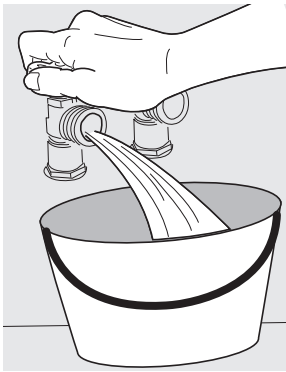

Fig. 1
1. Run some water from the hot and cold faucets to flush the water lines and remove particles that might clog the water valve screens and to determine which faucet is hot and which is cold supply. (Fig. 1).